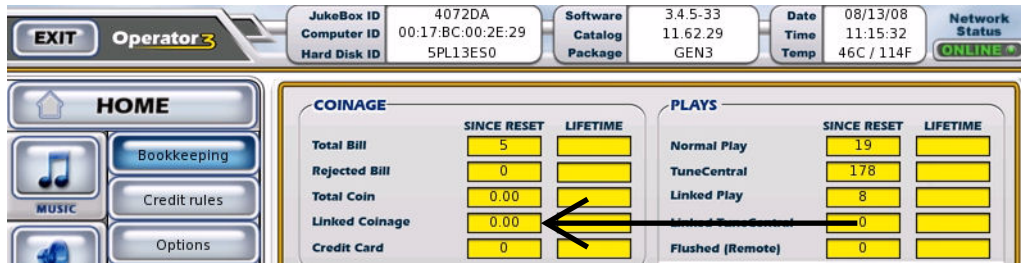

FIGURE 2 – TOUCHTUNES BOOKKEEPING MENU
- 9) Record the “Linked Coinage” value displayed (see Figure 2).